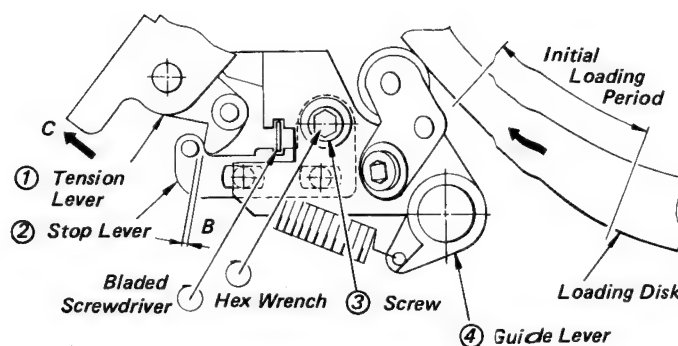

Fig. 5-88 Tension Servomechanism Operation Checking in Tape Loading
### 28-2. Checking the Tension Servomechanism Operation in Tape Loading (Fig. 5-88)
3. In such operations, make certain that the tension lever ① of the tension servomechanism that operates in the first period of tape loading cannot be interfered with the post of the stop lever ②.
5. Make certain that the clearance B between the tension lever ① and the post of the stop lever ② is 0 to 0.3 mm (see Fig. 5-88).
6. Turn the tension lever ① in the arrow direction C lightly to make certain that the tension lever ① can be securely stopped by the post of the stop lever ②.